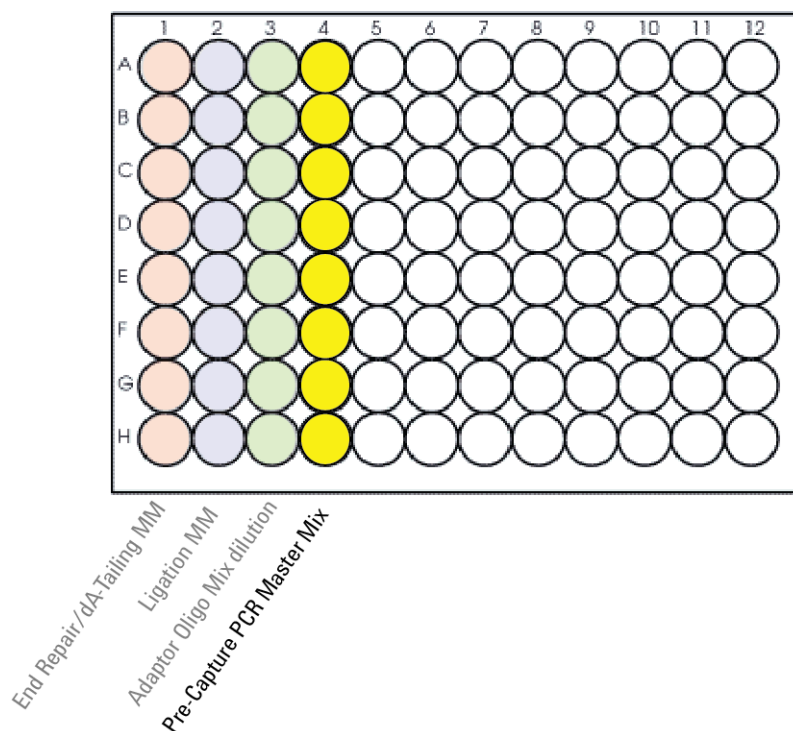

Figure 4 Configuration of the master mix source plate for **03 Pre-CapPCR_XT_LI_ILM**. Columns 1-3 were used to dispense master mix during the previous protocol.
- 6 Using the same Nunc DeepWell master mix source plate that was used for the 01 LibraryPrep_XT_LI_ILM run, add the volume of PCR Master Mix indicated in Table 28 to all wells of column 4 of the master mix source plate. The final configuration of the master mix source plate is shown in Figure 4.